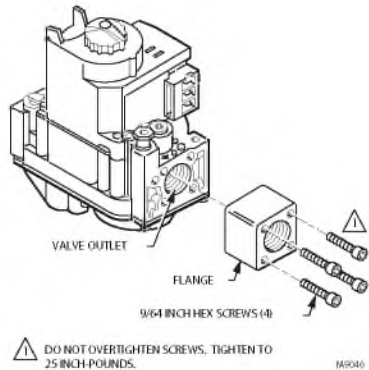

Fig. 2. Firmly fasten flange to valve, but do not overtighten screws.
4. Insert and tighten the screws provided with the flange. See Fig. 2. Tighten the screws to 25 inch-pounds of torque to provide a gas-tight seal.